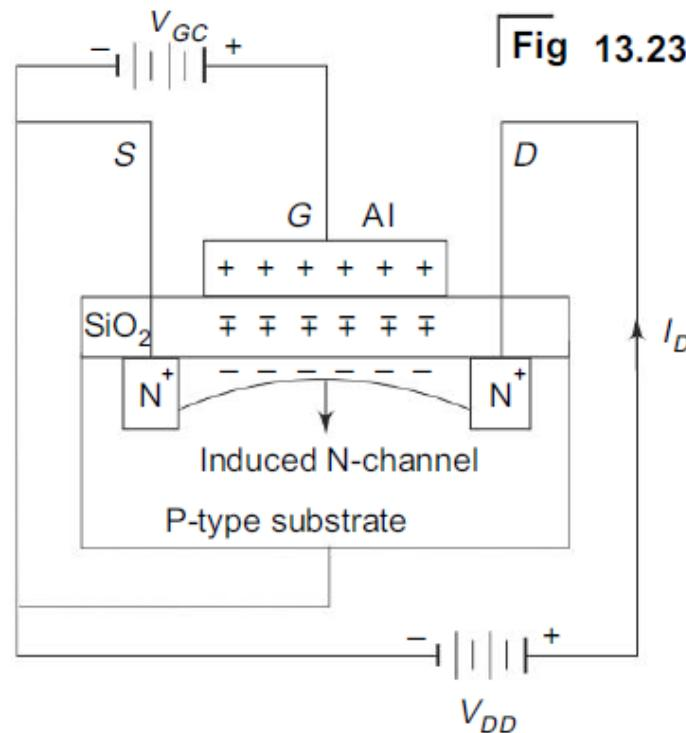

Fig 13.23 N-Channel Enhancement MOSFET
**Construction** The construction of an N-channel Enhancement MOSFET is shown in Fig. 13.23. Two highly doped  $N^+$  regions are diffused in a lightly doped substrate of P-type silicon substrate. One  $N^+$  region is called the source  $S$  and the other one is called the drain  $D$ . They are separated by 1 mil ( $10^{-3}$  inch). A thin insulating layer of  $\text{SiO}_2$  is grown over the surface of the structure and holes are cut into the oxide layer, allowing contact with source and drain. Then a thin layer of metal aluminum is formed over the layer of  $\text{SiO}_2$ . This metal layer covers the entire channel region and it forms the gate  $G$ .